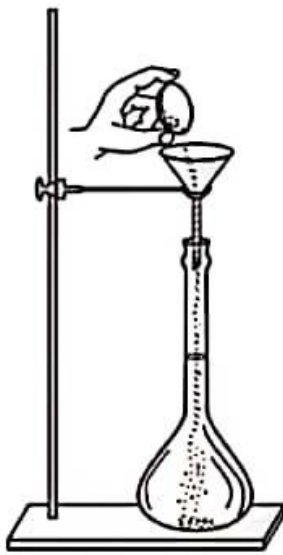

Fig. 11.14. Transferring oxalic acid to the flask.
4. Transfer gently and carefully the oxalic acid from the watch glass into a clean 250 ml measuring flask using a funnel. Wash the watch glass with distilled water with the help of a wash bottle to transfer the particles sticking to it into the funnel [Fig. 11.14]. The volume of distilled water for this purpose should not be more than 50 ml.